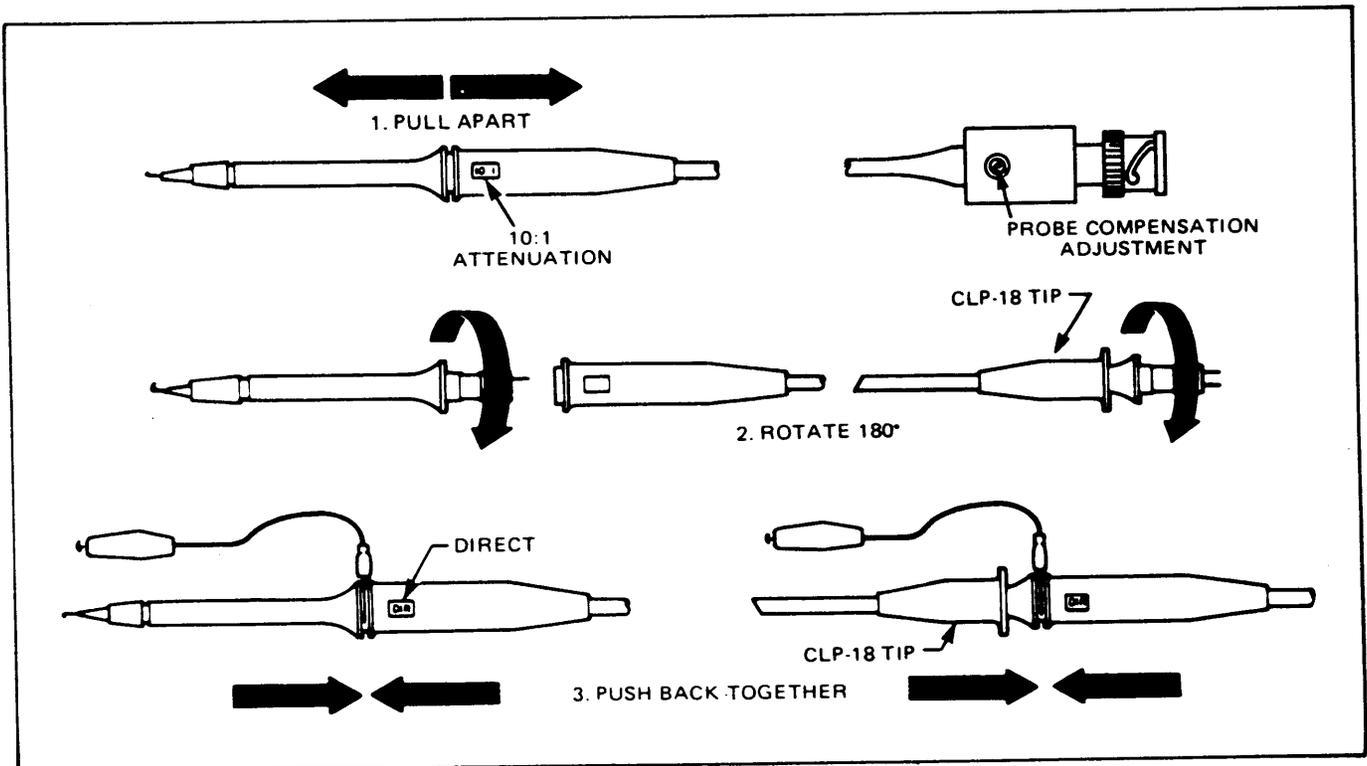

Fig. 3. Probe details.
38. Feet (4). Support oscilloscope when unit is in vertical position (face up); and serve as storage wrap anchors for line cord.
43. Probe (two required, see Fig. 3). The **B & K-Precision** Model PR-36 probes have been designed for use with this oscilloscope. These are combination 10:1/direct probes designed for oscilloscopes with input impedance of 1 megohm, shunted by 22 pF (± 3) and capable of operation up to and beyond 30 MHz. Equivalent oscilloscope probes may be used.
1. Perform the steps of the "Initial Starting Procedure" with the MODE switch (22) in the CH B position. Then connect the probe cable to the CH B INPUT jack (18). The following instructions assume the use of the B & K-Precision Model PR-36 combination probes.
2. For all except low-amplitude waveforms, the probes are set for 10:1 attenuation. For low-amplitude waveforms (below 50 mV peak-to-peak), set the probe for DIRECT. See Fig. 3 for changing the probes from 10:1 to DIRECT, or vice versa. The probe has a 10 megohm input impedance with only 18 pF shunt capacitance in the 10:1 position and 1 megohm with 120 pF shunt capacitance in the DIRECT position. The higher input impedance (low-capacity position) should be used when possible, to decrease circuit loading.
3. Set CH B DC-GND-AC switch (19) to AC for measuring only the AC component (this is the normal position for most measurements and must be used if the point being measured includes a large DC component). Use the DC position for measuring both the AC component and the DC reference, and any time a very low frequency waveform (below 10 Hz) is to be observed. The GND position is required only when a zero-signal ground reference is required, such as for DC voltage readings.